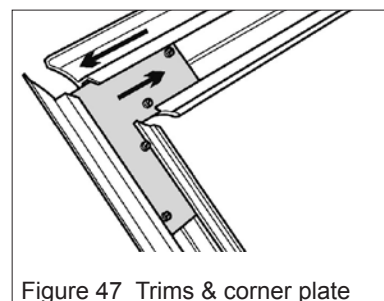

Figure 47 Trims & corner plate
1. Slide a corner connection plate into the channels in the top trim and a side trim. Butt the two trims together. Fit four grub screws and tighten to secure the trims and corner plate. See figure 47.